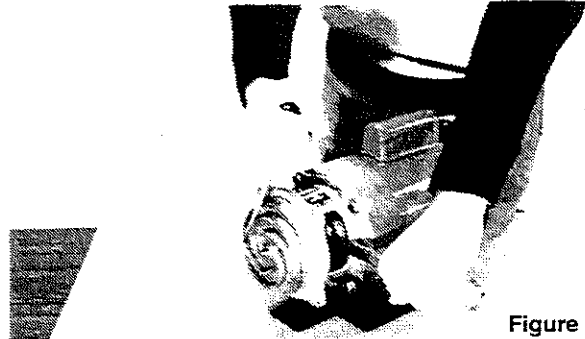

Figure 5
3. Leave the wrench on flats of stub shaft and unscrew the impeller by turning counterclockwise when facing the impeller (Fig. 5).